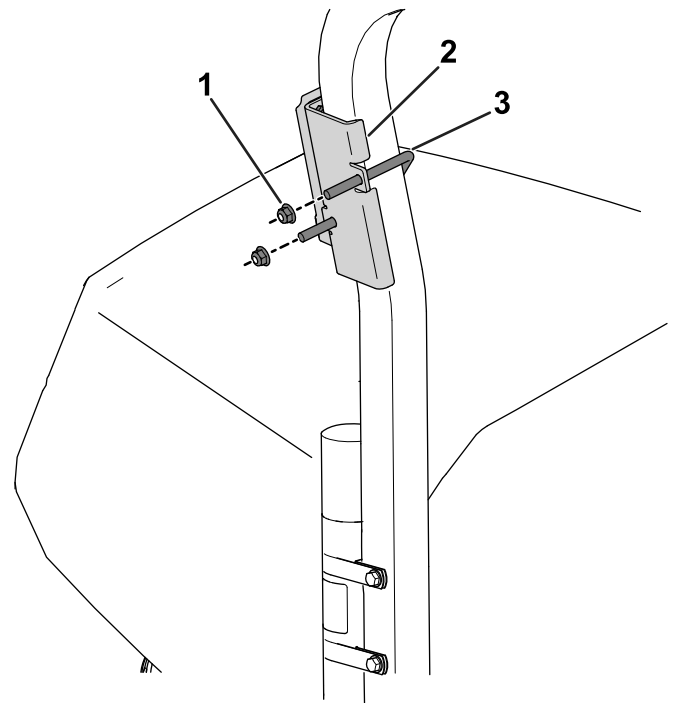

Figure 8
2. Use a U-bolt and 2 flange nuts (3/8 inch) to secure the device bracket to the area above the manual tube on the roll bar (Figure 8).